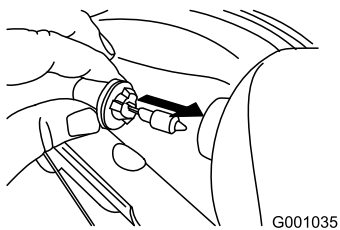

Figure 48
4. Insert a new bulb into the back of the headlight (Figure 48).